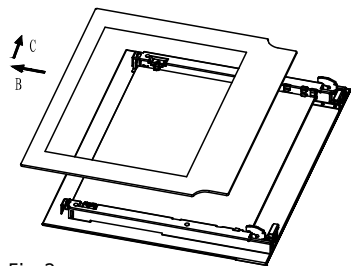

Fig.2
2. Take out inner glass slowly (Fig.2)